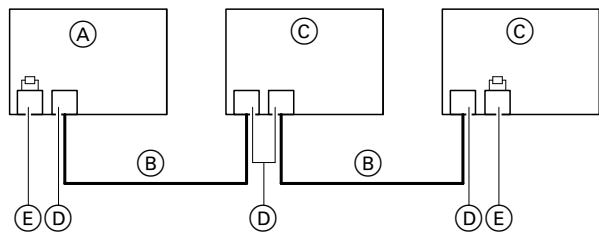

Fig. 58
- The Viessmann CAN bus is designed for "line" bus topology with a terminator at both ends: See Fig. 58.